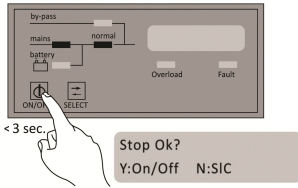
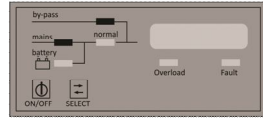

Figure 3.9
Figure 3.10
1. **If the UPS is in Normal Mode:** Switch off your loads safely. Press the *ON/OFF* button briefly. Press the *ON/OFF* button briefly again to confirm bypass operation and observe the *by-pass* and the *mains* LEDs turn on (*Figure 3.9, Figure 3.10*).